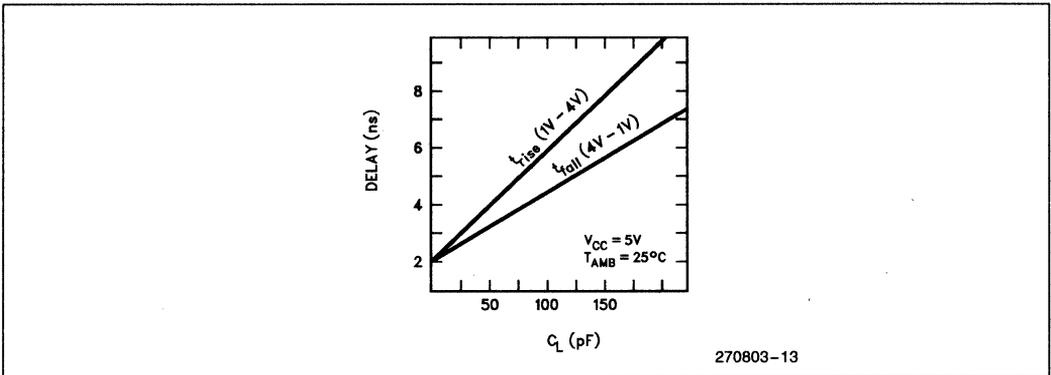

Figure 14
5. Specified for a 50 pF load, see Figure 14 for rise and fall times outside 50 pF.
6. See Figure 14 for rise and fall times.